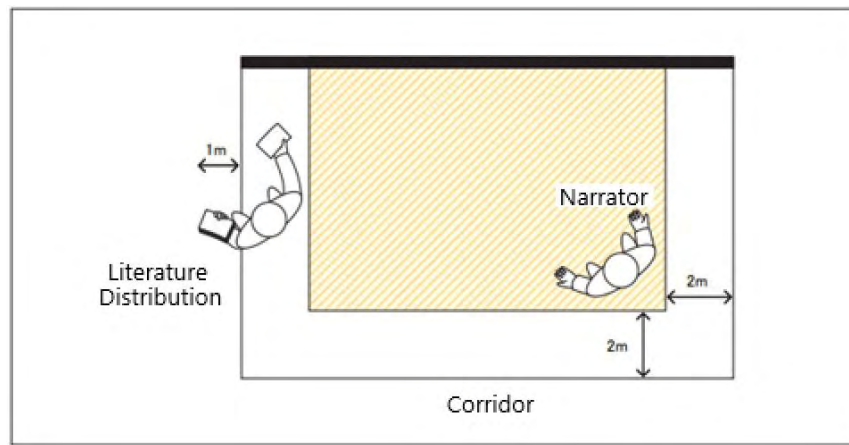

Figure 4. Locations of Narrators and Distributors of Company Materials
(1) Volume Limitations on Narrators and Audio Presentations (refer to Figure 4).
(2) Distribution of Promotional Materials and Blocking of Corridors (refer to Figure 4).
(3) Internet Connections
(4) Breakroom Rentals (applications required)